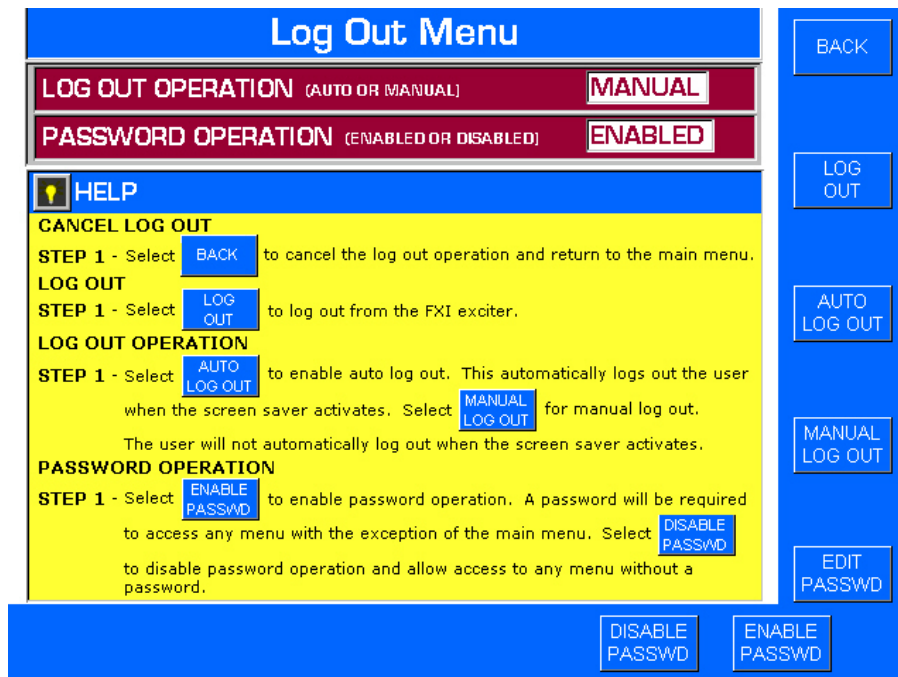

Figure 3-38. LOG OUT MENU
2. Depress LOG OUT. The Log Out Menu will appear (refer to Figure 3-38).
The FXi can be configured to automatically or manually log out from the security system (refer to Figure 3-38). Log out configures the FXi to the main menu and prevents access to additional menus. If automatic log out is selected, the FXi will automatically log out when the screen saver activates (approximately 15 minutes). If manual log out is selected, the user must manually log out using the LOG OUT button. This feature is designed to prevent a trip back to the transmitter site if the user inadvertently forgets to log out when finished. Typically, log out is configured to AUTO. If an exciter ac power interruption occurs, the exciter will automatically log out. To select the desired log out operation, proceed as follows:
1. On the Main Menu, depress LOG OUT. The Log Out Menu will appear (refer to Figure 3-38).
2. To select automatic log out, depress AUTO LOG OUT. AUTO will appear in the Log Out Operation display (refer to Figure 3-38).
3. To select manual log out, depress MANUAL LOG OUT. MANUAL will appear in the Log Out Operation display (refer to Figure 3-38).
The FXi security system can be enabled or disabled (refer to Figure 3-38). If password operation is enabled, the user will be required to log in. This will prevent access to menus from unauthorized personnel. If password operation is disabled, the user will not be required to log in. Any user will be able to access any menu. This feature is designed to temporarily disable the security system during maintenance periods. To select the desired password operation, proceed as follows:
2. To enable password operation, depress ENABLE PASSWD. ENABLED will appear in the Password Operation display (refer to Figure 3-38).
3. To disable password operation, depress DISABLE PASSWD. DISABLED will appear in the Password Operation display (refer to Figure 3-38).